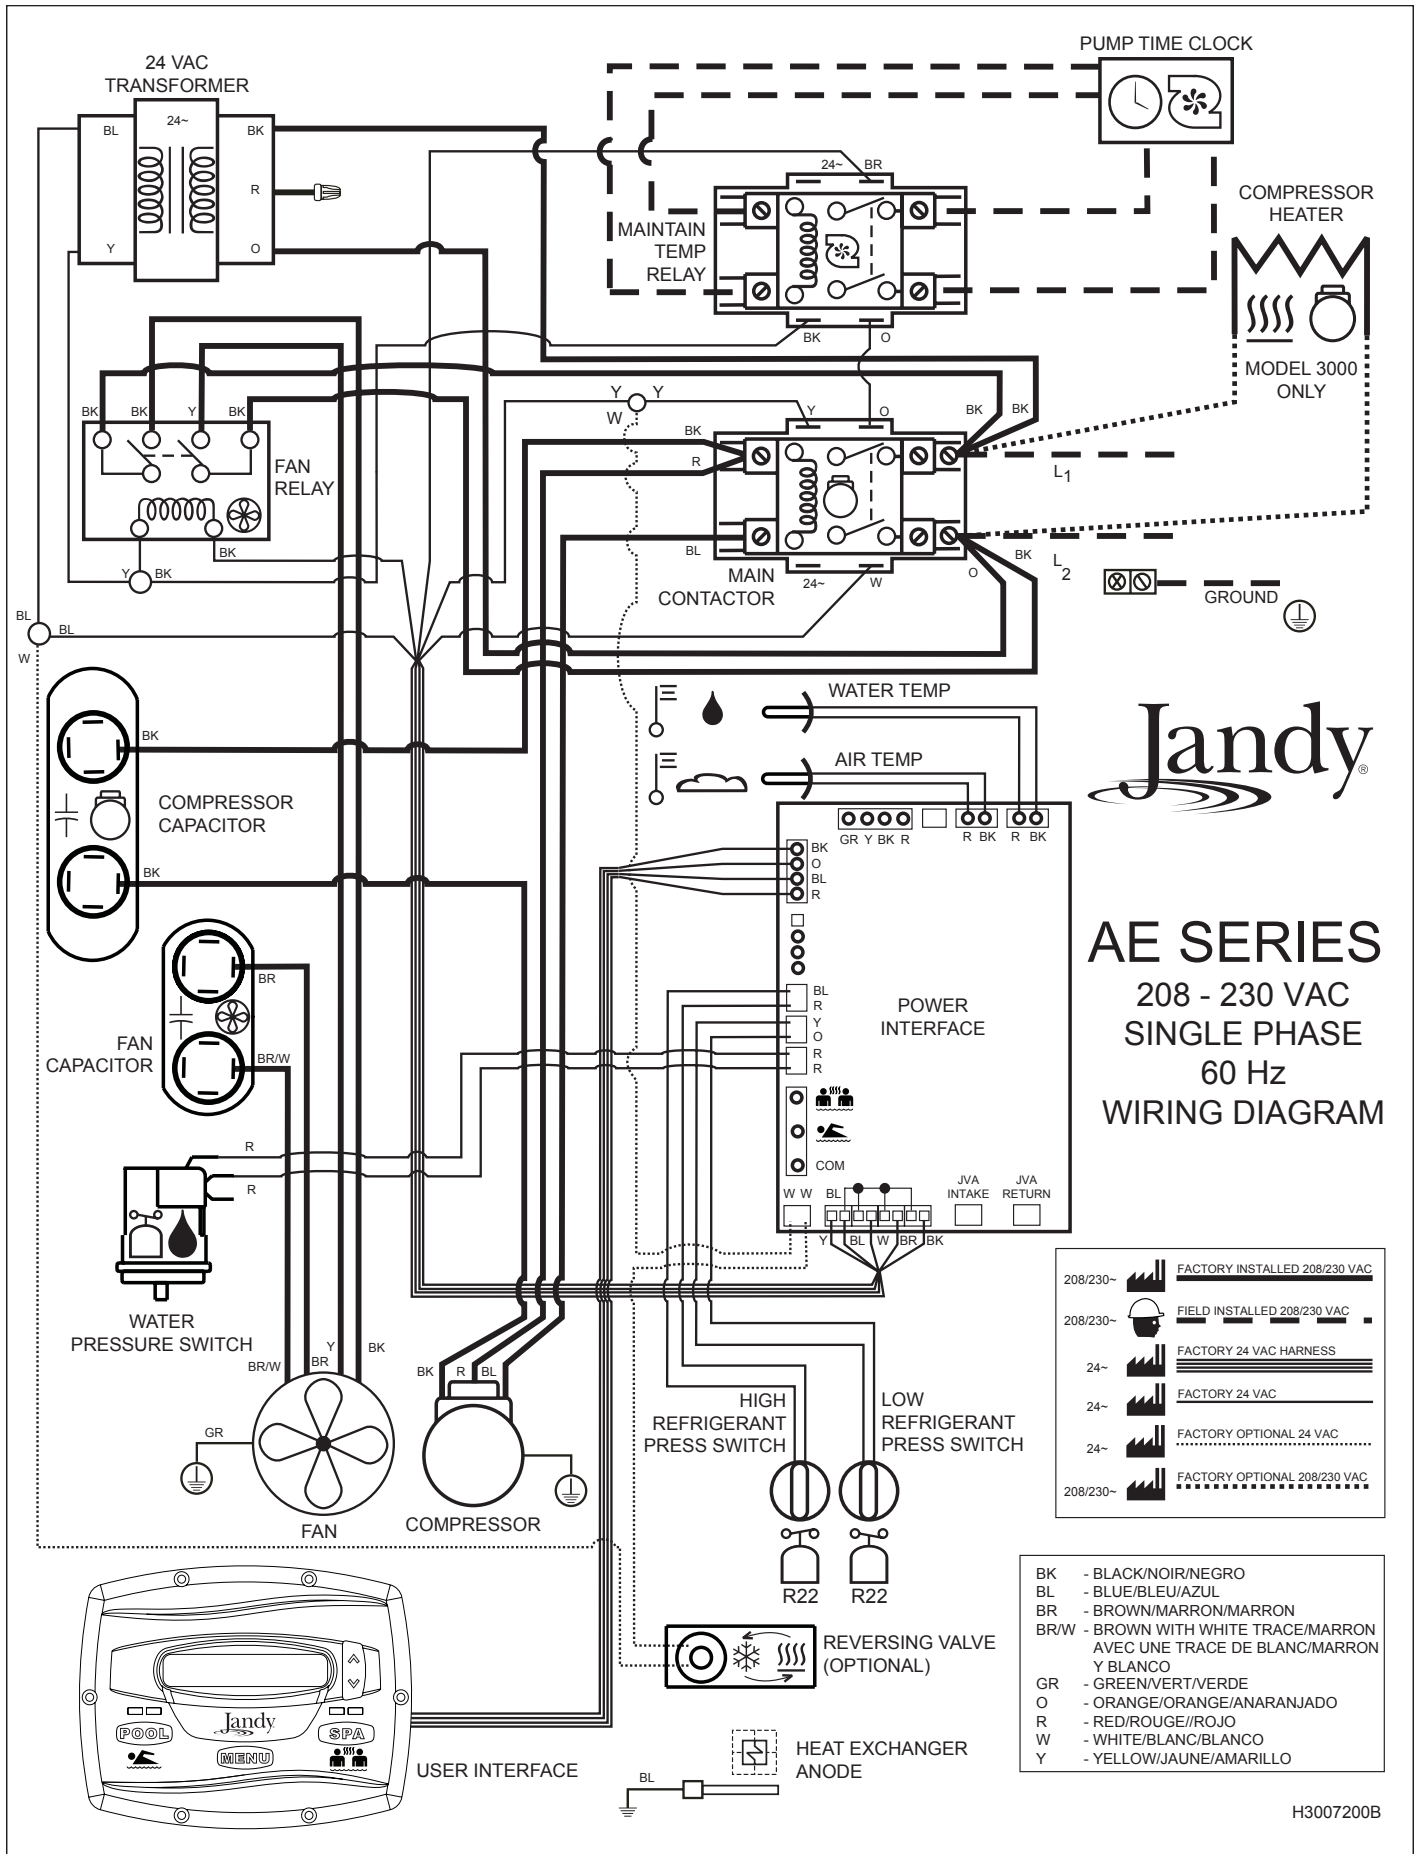
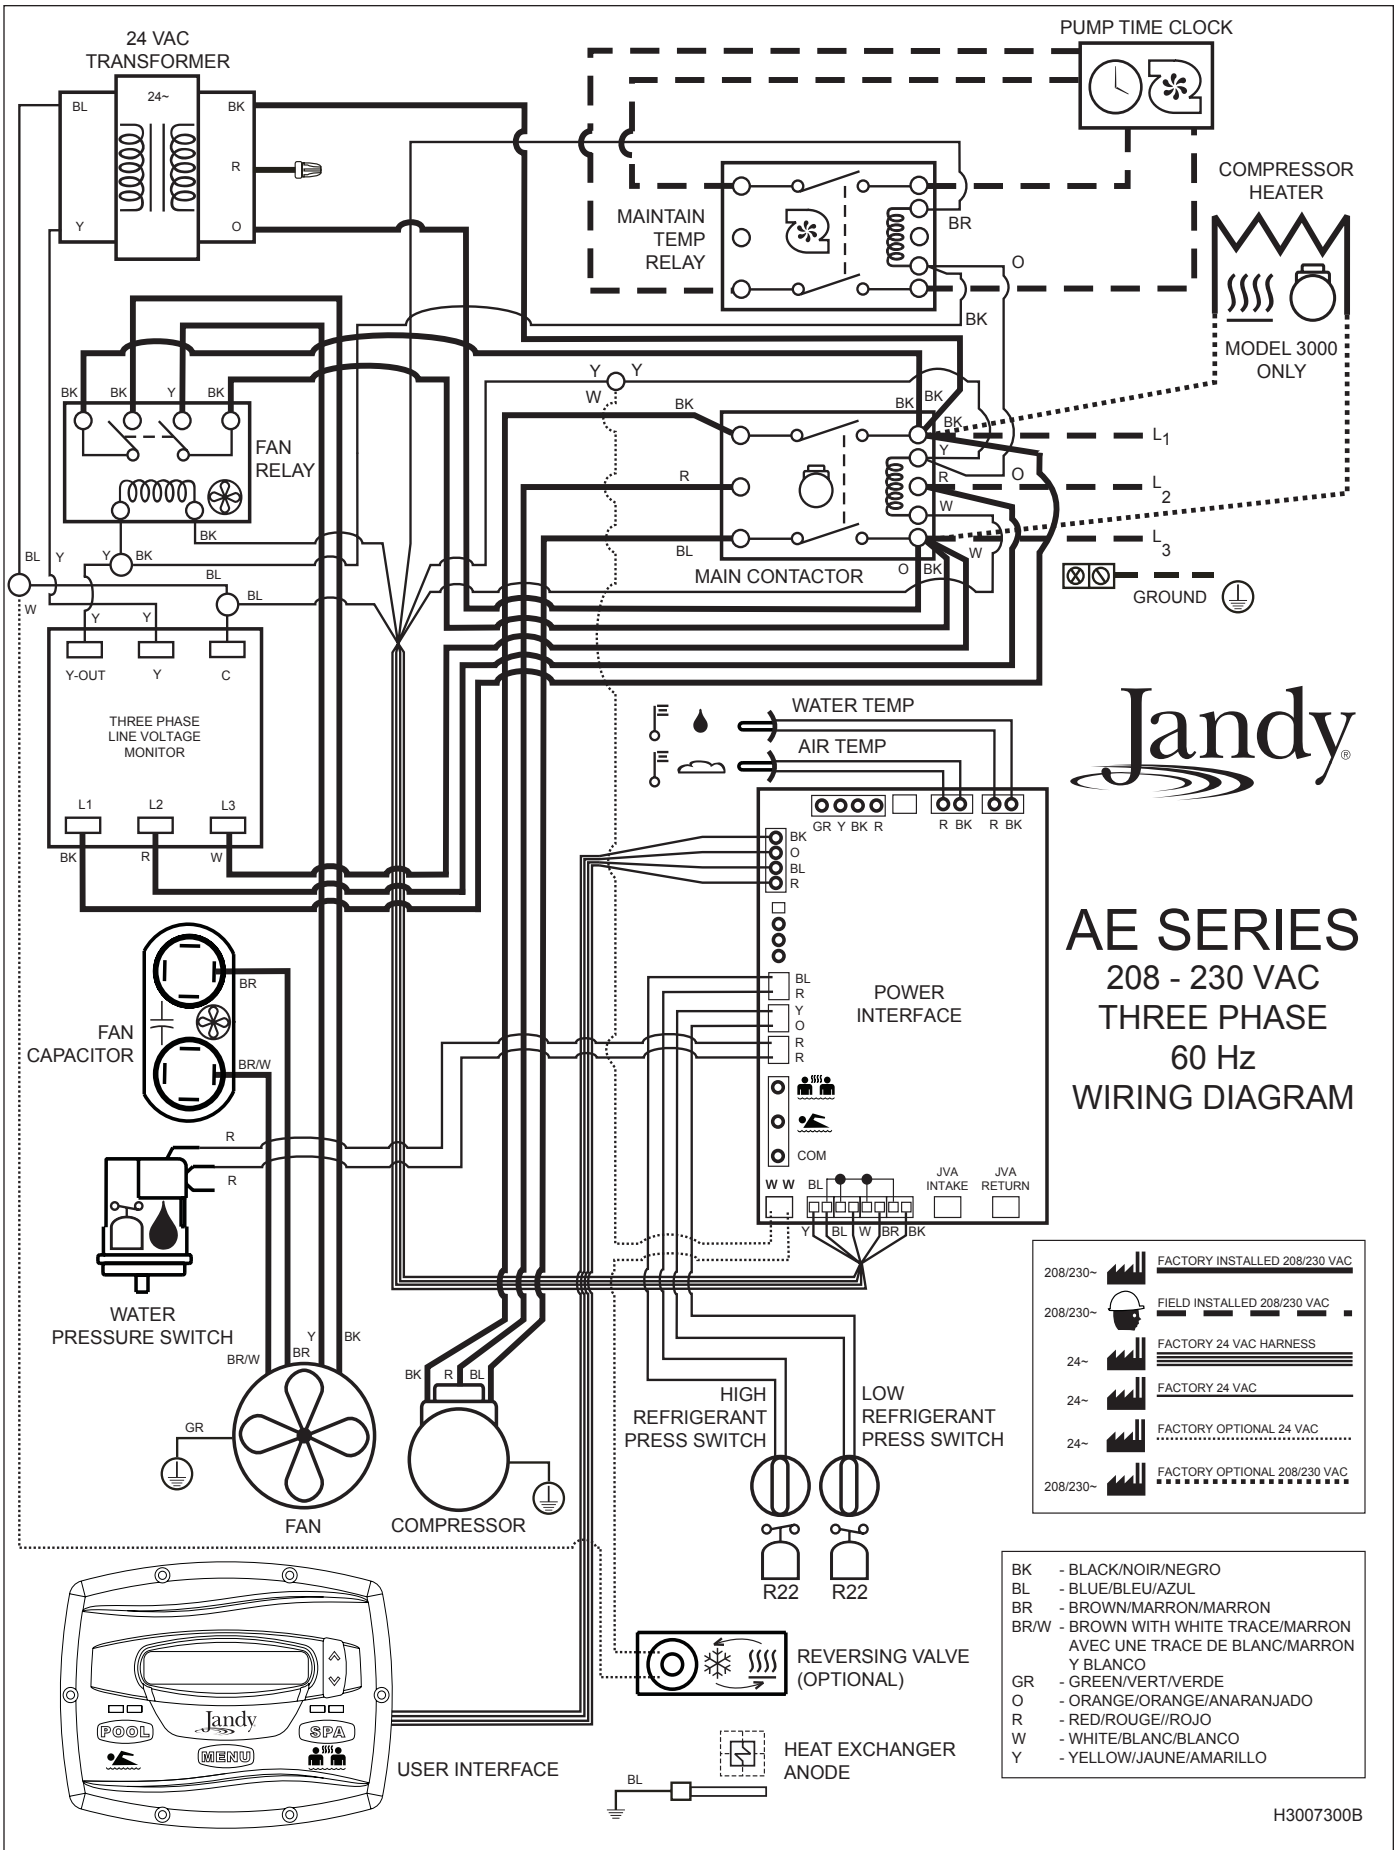

Figure 8. AE-Ti Single-Phase Electrical Supply Wiring Diagram
Figure 9. AE-Ti 3-Phase Electrical Supply Wiring Diagram
Wiring connections must be made exactly as shown in the wiring diagram found on the inside of the heat pump access compartment (see Figure 8 for single phase electrical wiring and Figure 9 for 3-phase electrical wiring). The heat pump must include a definite means of grounding and bonding. There is a bonding lug on the right side of the heat pump, where a bond wire must be attached.
5. Connect the wires to the terminals on the main contactor as shown in the wiring diagrams. Refer to Figures 8 and 9.